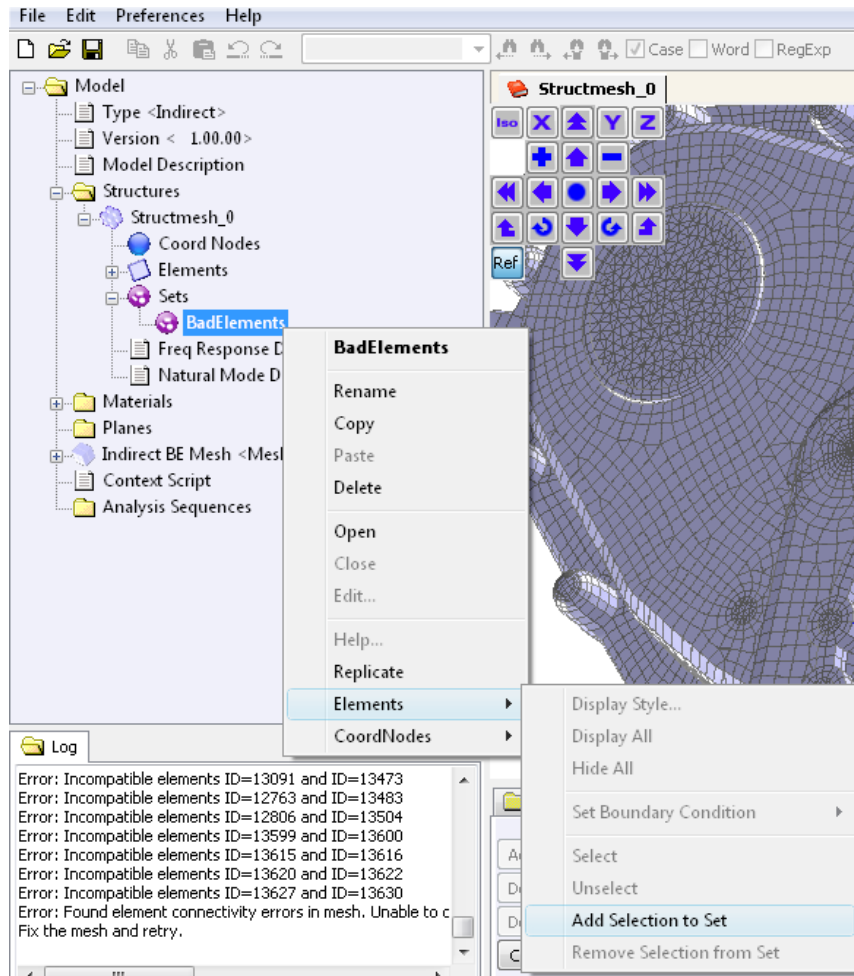

Figure 5.35 Add Bad Elements to a Set.
- Create a new set by choosing **Model** → **Structures** → *<Structure Mesh Name>* → **Sets**. Right-click on **Sets** and select **New**. Rename the new set to *<Bad Elements Set>*. To add Bad Elements right-click on *<Bad Elements Set>* and select **Elements** → **Add Selection to Set**. (Figure 5.35)